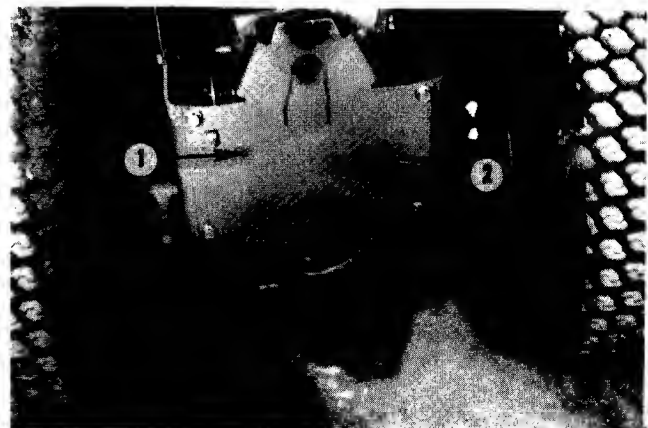

FIG. 4.33-REAR PTO COVER
1. Bracket Bolts (4) 2. Hydraulic Lift Cylinder.
8. Remove four bolts securing plate or PTO belt cover, if equipped with PTO to tractor frame, Fig. 4.33.
7. Install rear plate or belt cover to rear of frame. If belt cover be sure belt guide in cover is on outside of belts. Fig. 4.33.